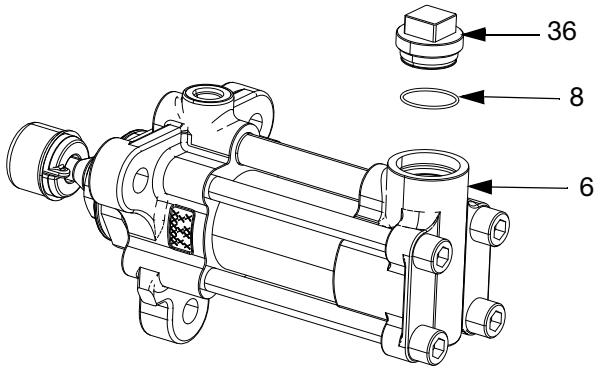

FIG. 4
**NOTE:** S4 models can be identified by the square on the inlet cap (36).
2. Remove inlet hose and drain inlet housing (7). See FIG. 4.